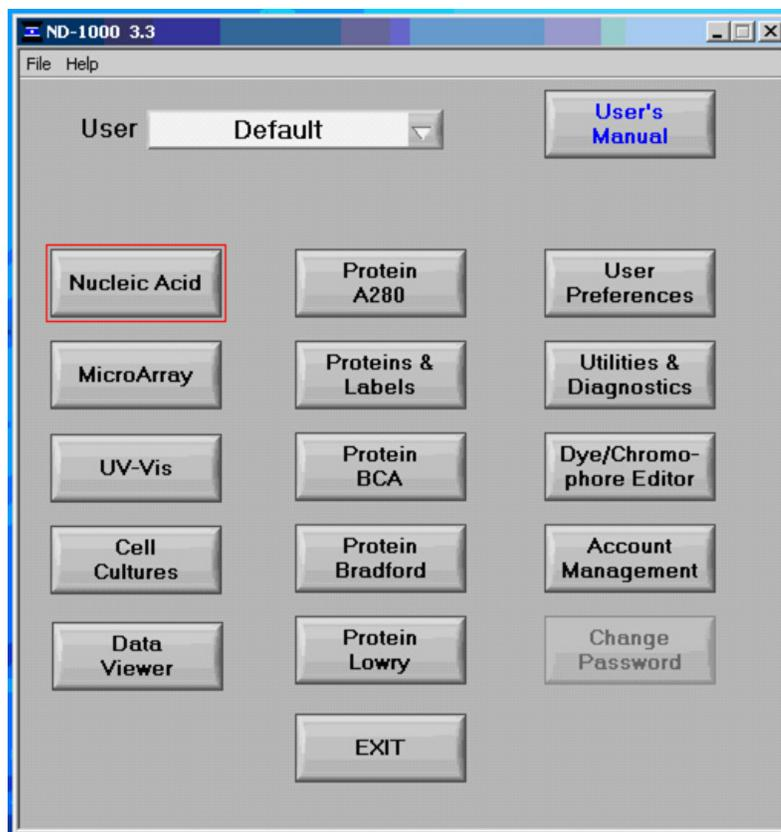

Figure 29 NanoDrop® ND-1000 Spectrophotometer software dialog box (from <http://nanodrop.com/nd-1000-software.html>).
2. Open the NanoDrop ND-1000 Spectrophotometer software to display a dialog box (see Figure 29 on page 191).